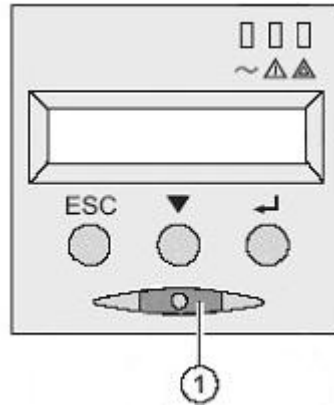

Fig. 16: UPS operating section
- If the **uninterruptible power supply** (UPS) located in the ISIS rack has not already been switched on, then it must be switched on using the button (1) (see Fig. 16).